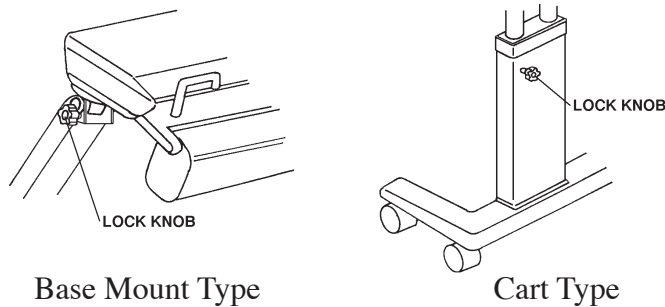

Fig.3-11 Lock Knob
(6) Lock Knob for Doctor Table Height Adjustment (Fig.3-11)